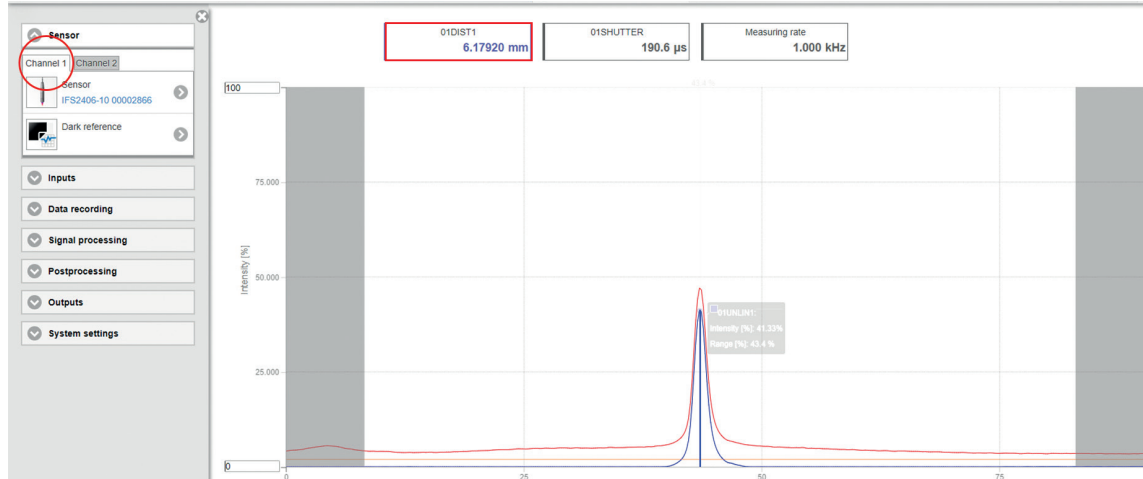

Fig. 11 O1DIST1 value in web interface
- Activate channel 1 and read off the value for `O1DIST1`, see Fig. 11.